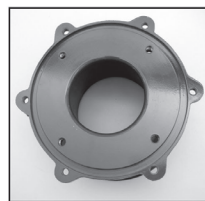

Figure 25
For vertical discharge – Install the clamp ring (item 9) in the motor adapter so the housing bolt holes (6 holes in clamp ring) are in 3:00 and 9:00 position. See figure 25.
8. Establish the bottom of the motor adapter/clamp ring assembly. See figures 25 and 26.